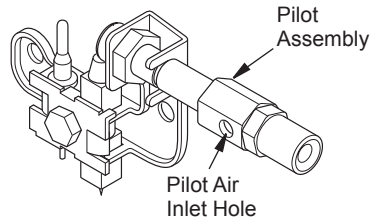

Figure 24 - Pilot Inlet Air Hole
2. Inspect burner, pilot and primary air inlet holes on orifice holder for dust and dirt (see Figure 24).